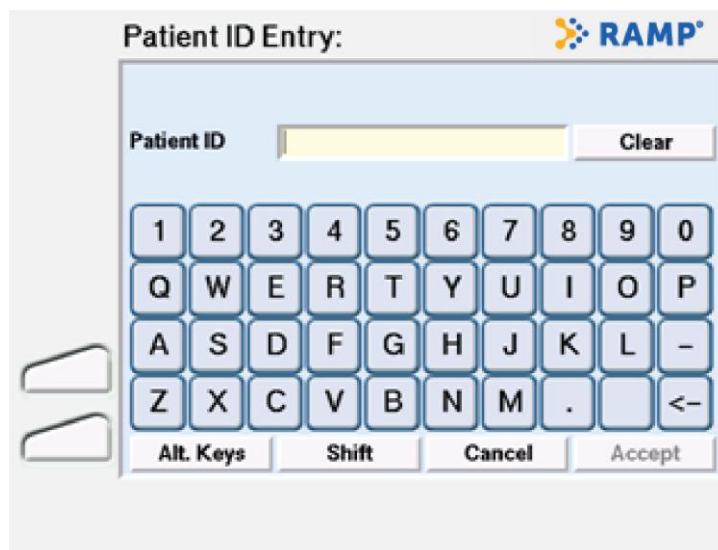

Figure 8 Patient/Sample ID Entry Screen
- 2 When prompted, enter the Patient ID/Sample ID using either the touchscreen or barcode scanner (*Figure 8*). The maximum number of alpha or numeric characters for the Sample ID is 18 characters. To accept the displayed information touch **Accept**.